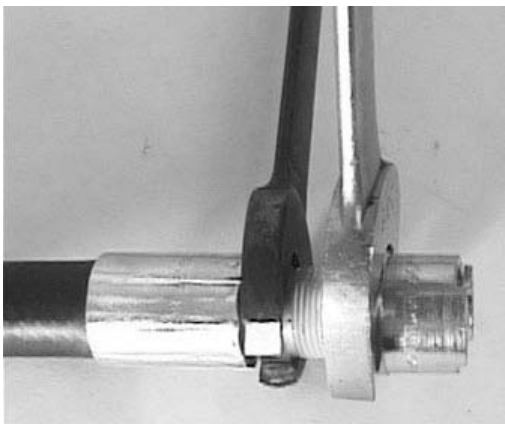

Figure 8-7. Remove Coupling Socket from Whip Hose.
4. Using a 1-3/8-inch open-end wrench to hold the Quick Disconnect Socket (22) in place, use a 1-1/8-inch open-end wrench to loosen and thread the hose fitting of Whip Hose (20) from the Socket. Refer to Figure 8-7.